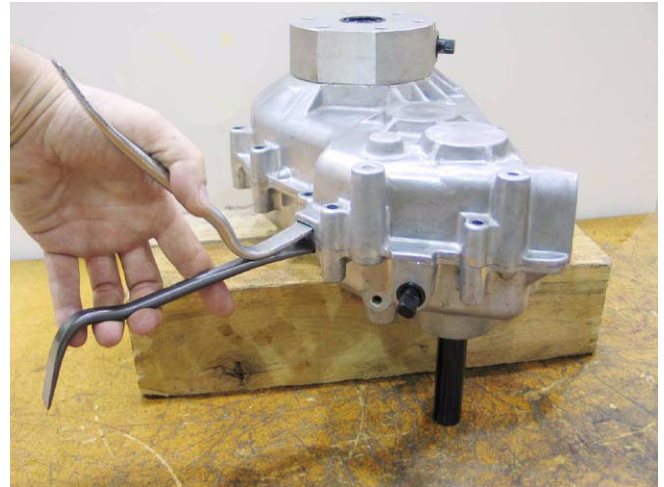

Figure 11.7
- 11.7. Use the square recessed pry-points to separate the housing halves. See Figure 11.7.